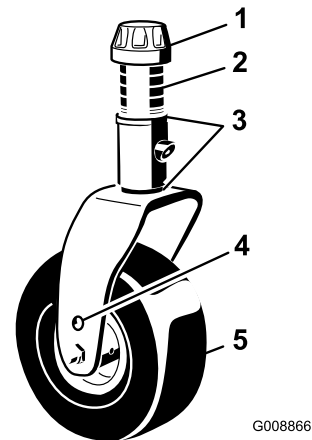

Figure 29
3. Remove the tensioning cap from the castor spindle shaft (Figure 29) and slide the castor shaft out of the castor arm. Put 2 shims (1/8 inch [3 mm]) onto the shaft as originally installed. Slide the appropriate number of 1/2 inch spacers onto the shaft to get the desired height-of-cut.